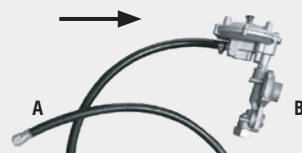

Fig. 1
- 7 Connect the hose end with the reducer to the gas cylinder (connect end B of hose to the gas cylinder, as shown in Fig. 1).
- 9 Press the pressure relief valve on the reducer 2-3 times (see Fig. 1).